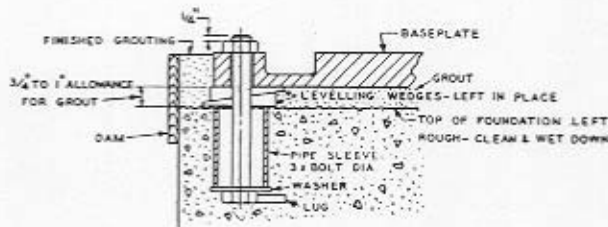

Fig. 3-2
A template should be made to position and hold the foundation bolts in place while pouring the concrete. Location and sizes of bolt holes are shown on the certified outline drawing supplied to the purchaser. Each bolt is installed in a pipe sleeve, the inside diameter of which should be three times the outside diameter of the bolt. The pipe sleeve allows for minor adjustments in bolt spacing after foundation is in place (Fig. 3-2). Two methods commonly used to secure and prevent bolts from turning are:
- a. A washer is placed between the bolt head and pipe sleeve with a lug welded to the bolt head (Fig. 3-2).
Stuff waste between foundation bolts and sleeves to prevent concrete from entering while foundation is being poured. Foundation bolts must be long enough to allow from ¾" to 1" for grouting under the baseplate (Fig. 3-2). When pump is level, the bolts should extend ¼" through the nuts. Leave top surface of foundations rough for adherence of grout.
2. Grouting — Build a board dam around the foundation to the desired height for finished grouting (See Fig. 3-2). A mixture of one part portland cement to two parts clean sand with just enough water to mix to a thick creamy consistency should be made for grout. Wet the underside of the baseplate and foundation top, then pour the grout through the holes in the baseplate. Thoroughly puddle the grout during pouring to prevent air pockets and hollow spots. After grout has set sufficiently, remove the board dam and finish off the grout as desired. When grout has hardened, usually in about 48 hours, pull up on foundation bolts.